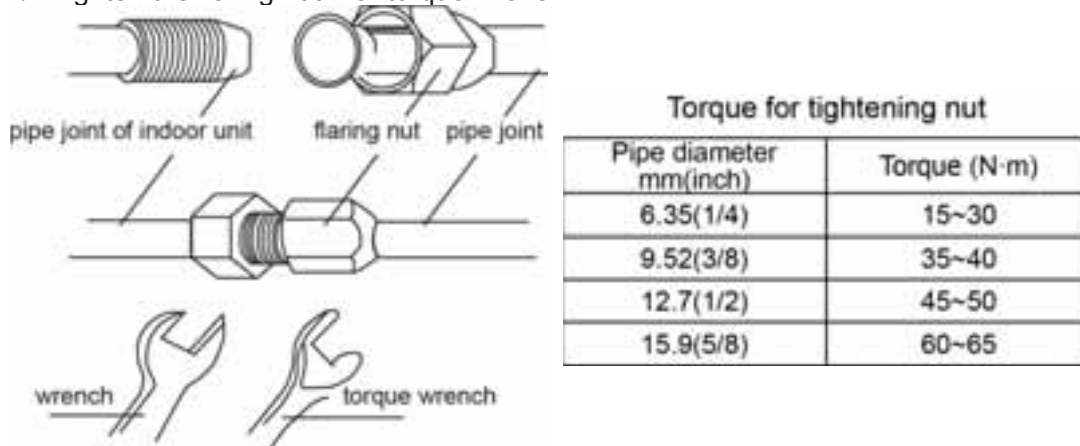

Fig.4.2
- (1) Align the flaring port of copper pipe to the center of screwed joint and then tighten the flaring nut by hand as shown in Fig. 4.2.
- (2) Tighten the flaring nut with torque wrench.